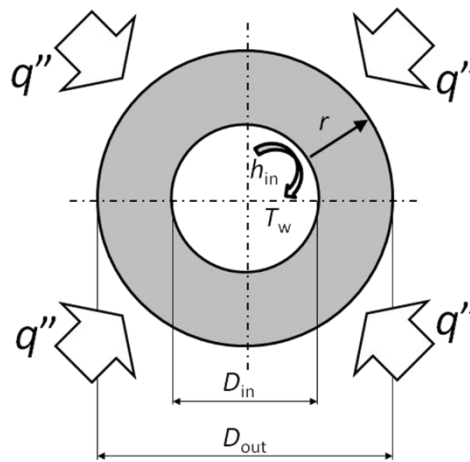

Fig. 2
- 2) In the combustion chamber of a large thermoelectric power plant there are several stainless steel (SS) pipes (thermal conductivity $k = 15 \text{ W/m/K}$) having an internal diameter $D_{\text{int}} = 24 \text{ mm}$ and an external diameter $D_{\text{out}} = 36 \text{ mm}$ (Fig. 2). Inside the pipes, where the heat transfer coefficient is $h_{\text{in}} = 1000 \text{ W/m}^2/\text{K}$, vaporizing water flows at the constant temperature $T_w = 340 \text{ }^\circ\text{C}$. The external surface of the pipe, facing the flames, experiences a circumferentially uniform heat flux $q'' = 5 \text{ kW/m}^2$. Compute and plot the steady state temperature distribution across the pipes (along the direction “ r ”). Save the script in a file to be named **EX2_yoursurname.properextension** and the plot in a file to be named **EX2_yoursurname_plot.properextension**.